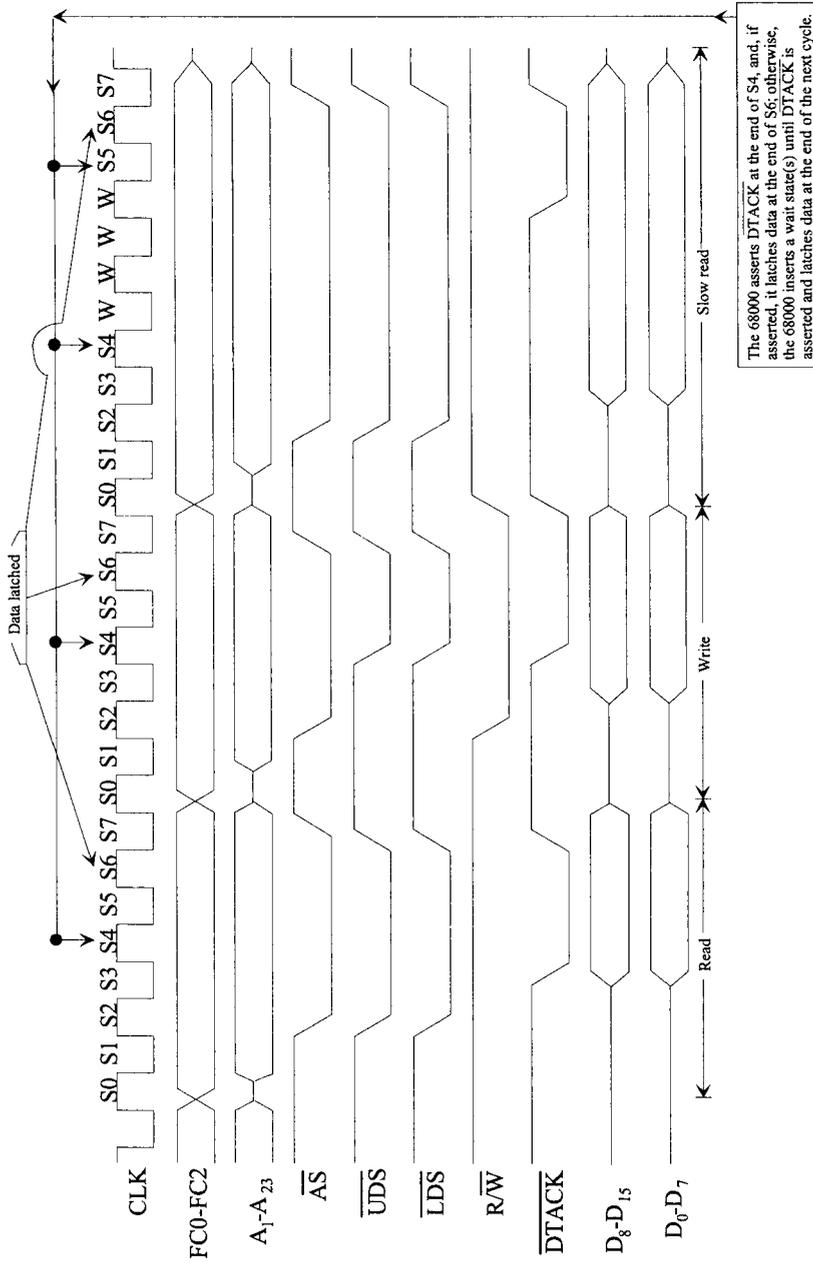
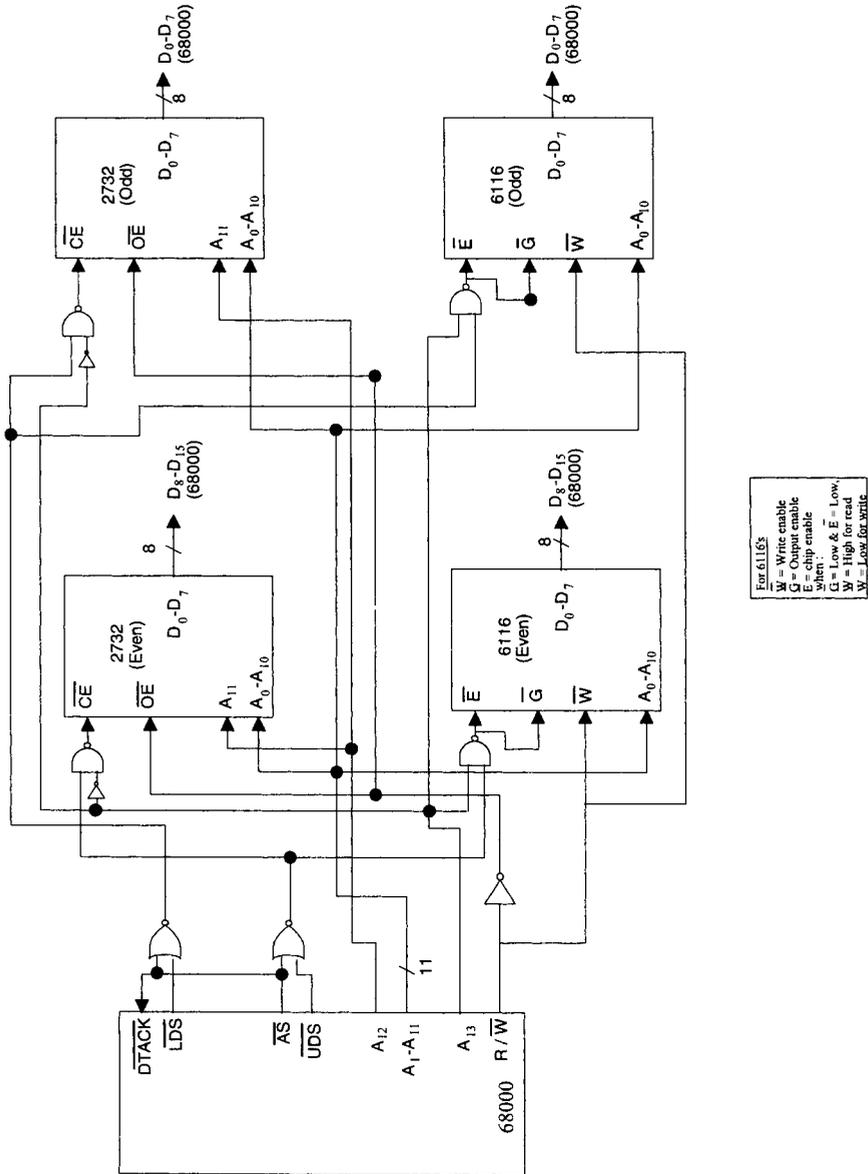
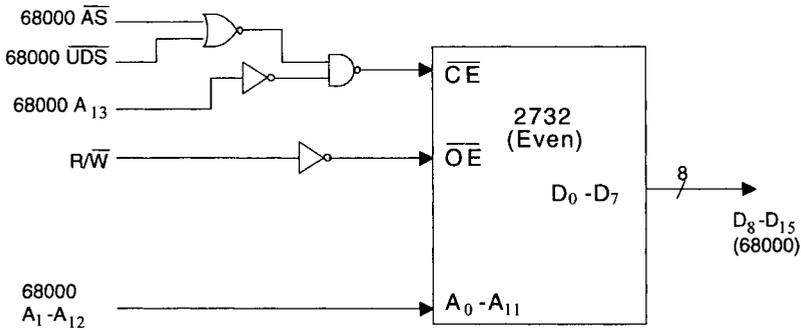

FIGURE 10.13 6800 Read and Write cycle Timing Diagrams
FIGURE 10.15 68000 interface to 2732 / 6116
FIGURE 10.16 68000 interface to even 2732
Figure 10.13 shows the read/write timing diagrams. During S_0 , address and data signals are in the high-impedance state. At the start of S_1 , the 68000 outputs the address on its address pins (A_1 – A_{23}). During S_0 , the 68000 outputs FC_2 – FC_0 signals. \overline{AS} is asserted at the start of S_2 to indicate a valid address on the bus. \overline{AS} can be used at this point to latch the signals on the address pins. The 68000 asserts the \overline{UDS} , \overline{LDS} , and $R/\overline{W} = 1$ to indicate a READ operation. The 68000 now waits for the peripheral device to assert \overline{DTACK} . Upon placing data on the data bus, the peripheral device asserts \overline{DTACK} . The 68000 samples the \overline{DTACK} signal at the end of S_4 . If \overline{DTACK} is not asserted by the peripheral device, the processor automatically inserts a wait state(s) (W).
If \overline{DTACK} is not asserted by the peripheral at the end of S_4 (Figure 10.13, SLOW READ), the 68000 inserts wait states. The 68000 outputs valid addresses on the address pins and keeps asserting \overline{AS} , \overline{UDS} , and \overline{LDS} until the peripheral asserts \overline{DTACK} . The 68000 always inserts an even number of wait states if \overline{DTACK} is not asserted by the peripheral because all 68000 operations are performed using the clock with two states per clock cycle. Note in Figure 10.13 that the 68000 inserts 4 wait states or 2 cycles.
One of the advantages of the 68000 is that it can easily be interfaced to memory chips with various speeds because it goes into a wait state if \overline{DTACK} is not asserted (LOW) by the memory devices at the end of S4. A simplified schematic showing an interface of a 68000 to two 2732's and two 6116's is given in Figure 10.15. As mentioned in Chapter 9, the 2732 is a 4K × 8 EPROM and the 6116 is a 2K × 8 static RAM. The pin diagrams of the 6116 and 2732 are provided in Appendices C and E respectively. For a 4-MHz clock, each cycle is 250 ns. Because the 68000 samples data at the falling edge of S4 (750 ns) and latches data at the falling edge of S6 (1000 ns), \overline{AS} can be used to assert \overline{DTACK} . From the 68000 timing diagram of Figure 10.13, \overline{AS} goes to LOW after approximately two cycles (500 ns). The time delay between \overline{AS} going LOW and the falling edge of S6 is 500 ns. Note that \overline{LDS} and \overline{UDS} must be used as chip selects as in Figure 10.15. They must not be connected to A0 of the memory chips. Because in that case half of the memory in each memory chip would be wasted. Note that \overline{LDS} and \overline{UDS} also go to LOW after about two cycles (500 ns).
In Figure 10.15, a delay circuit for \overline{DTACK} is not required because the 2732 and 6116 both place data on the bus lines before the 68000 latches data. This is because the 68000 clock frequency is 4 MHz in this case. Thus, each clock cycle is 250 ns. The access times of the 2732 and 6116 are 200 ns and 120 ns respectively. Because \overline{DTACK} is sampled after 3 clock cycles (3 × 250 ns = 750 ns), both the 2732 and 6116 will have adequate time to place data on the bus for the 68000 to latch.
For example, consider the even 2732 EPROM of Figure 10.16. \overline{UDS} and \overline{AS} are NORed and then NANDed with inverted A₁₃ to select this chip. With the 200-ns access time of the 2732 (Used to be 450ns), data will be placed on the 68000 D₈–D₁₅ pins after approximately 720 nanoseconds (500 ns for \overline{AS} or \overline{UDS} + 10 ns for the NOR gate + 10 ns for the NAND gate + 200 ns for the 2732). Therefore, no delay circuit for the 68000 \overline{DTACK}
In case a delay circuit for \overline{DTACK} is required, a ring counter with D flip-flops can be used. Let us now determine the memory maps. Figure 10.16 shows the 68000 interface to even 2732 obtained from Figure 10.15. When $A_{13} = 0$, $\overline{UDS} = 0$, $\overline{AS} = 0$, and $R/\overline{W} = 1$, the 2732 will be selected by the 68000 to read data from the 68000 D_8-D_{15} pins. The 68000 address pins $A_{23}-A_{14}$ are don't cares (assume 0). The memory map for the even 2732 can be determined as follows: